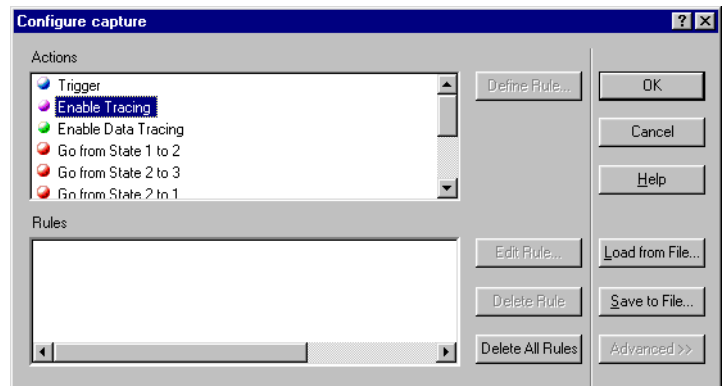

Figure 8-53 Configure capture dialog box
- Set the tracing conditions by selecting **Configure Capture** from the **Trace** menu. The **Configure capture** dialog box is shown in Figure 8-53.